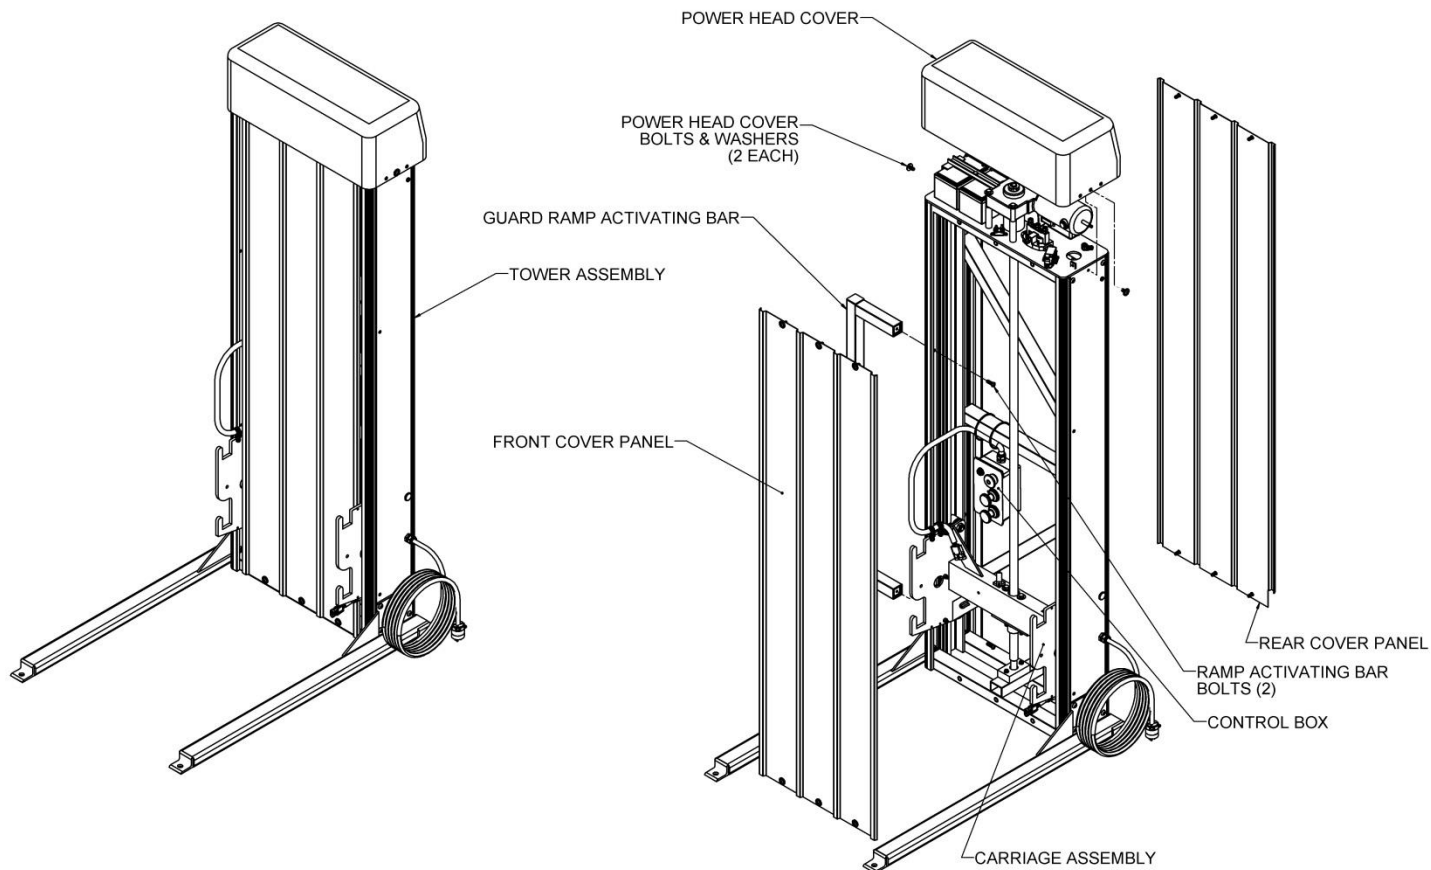

FIG. 4.1
1. Remove the power head cover first by removing the two button head bolts on either end (FIG. 4.1).
4. Determine which side of the platform will have the guard ramp and attach the guard ramp activating bar in the two open holes on the corresponding side of the tower using two 5/16"-18 x 1" long attachment bolts. The guard ramp activating bar must always be installed on the same side as the guard ramp (FIG. 4.1). Tighten all fasteners, including the splice connector bolts, securely.